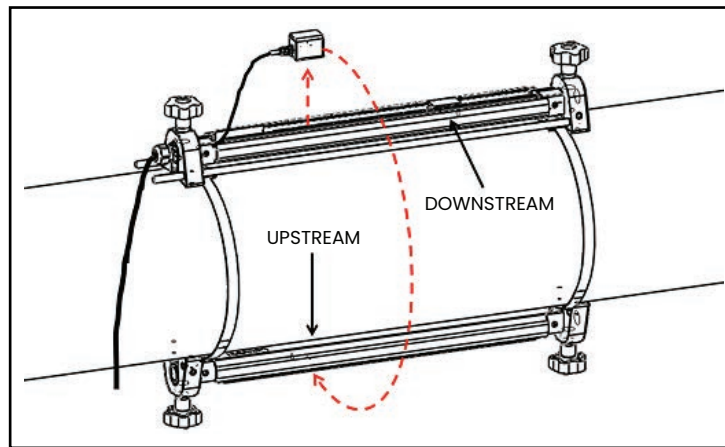

Figure 20: Relocate the Upstream Transducer
- b. Remove the upstream transducer from the first fixture (see Figure 20 below). Disconnect the transducer cable and route the cable into the second fixture.